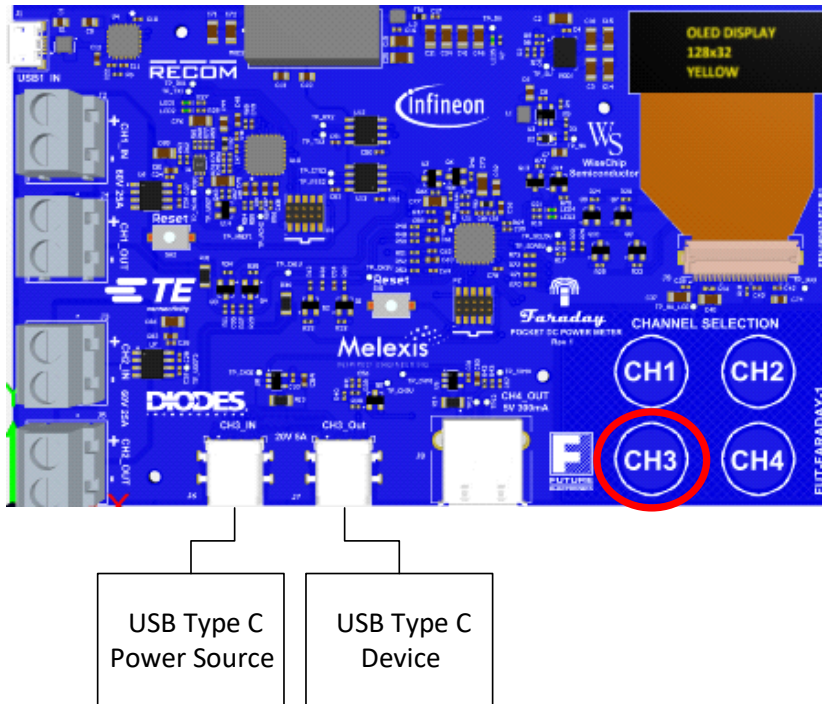

Figure 3. Voltage, Current & Power Measurement on USB Type C Ports Using Channel 3
3. Connect an USB Type C source to the CH3_IN connector and an USB Type C device to the CH3_OUT connector to measure Voltage, Current and Power of an USB Type C device as shown in **Figure 3**